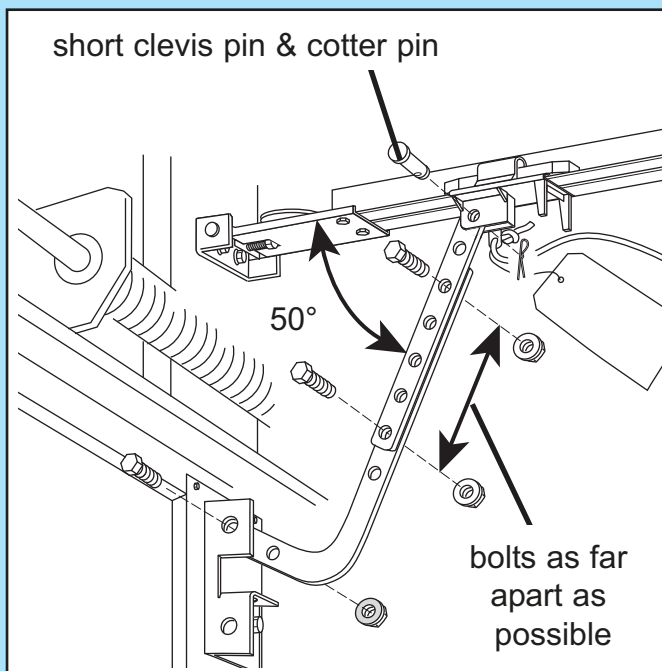

FIG. 2-9 Attaching door arms.
- Fasten short branch of curved door arm to door bracket using bolt and locking nut (Fig. 2-9).
- Fasten straight arm to carriage using short clevis pin and cotter pin (Fig. 2-9).
- With the arms arranged in this position, fasten arms together using bolts and nuts spaced as far apart as possible (Fig. 2-9).